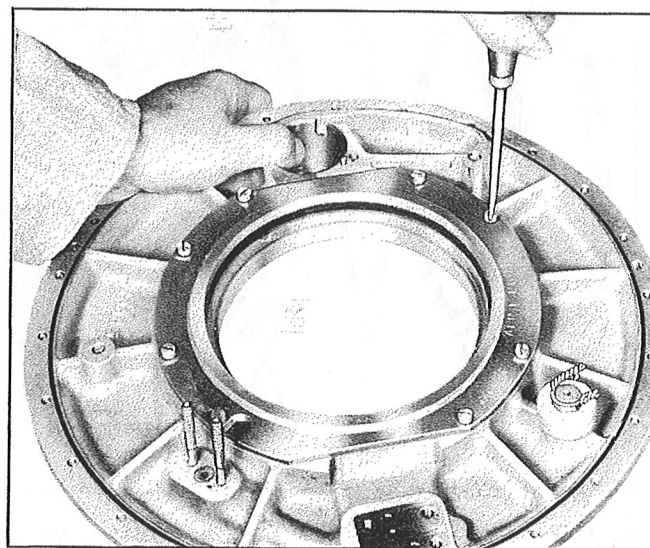

Figure 144—Removal of the Housing Bearing
*Step 22.*—Remove the housing bearing on models A632S-C1, -B1, and -B5 by cutting the safety wire and withdrawing the fillister head capscrews that hold the bronze regulator housing bearing to the housing. See Figure 144. Lift out the bearing, and remove the housing seal and spring.
*Step 4.*—Attach the regulator housing bearing to the housing, using the 8 x 24 fillister head screws. Tighten the opposite screws evenly and safety with .032" wire. See Figure 144.